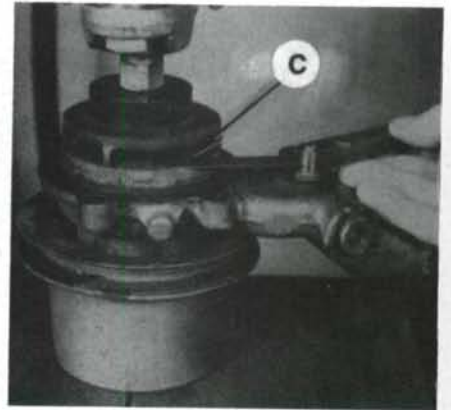

Fig. 143—Measure clearance (C) between impeller and housing while pressing impeller onto shaft. Refer to text.
Coat brass portion of rear seal (5) lightly with sealing compound and push it fully in place with carbon face toward rear. Install ceramic counterface (5C) with grooved side out toward impeller. Check shaft for freedom of rotation, then press impeller (3) onto rear of shaft until clearance (C—Fig. 143) between